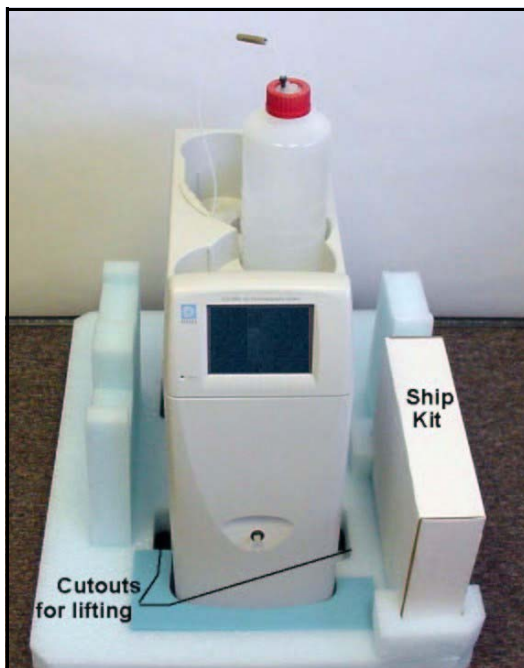

Figure 3. ICS-1500 with Ship Kit
3. Remove the next layer of foam and remove the Ship Kit box (see Figure 3).
4. The bottom foam layer has two cutouts on either side of the ICS-1500 module; use these as handholds when lifting the module (see Figure 3).